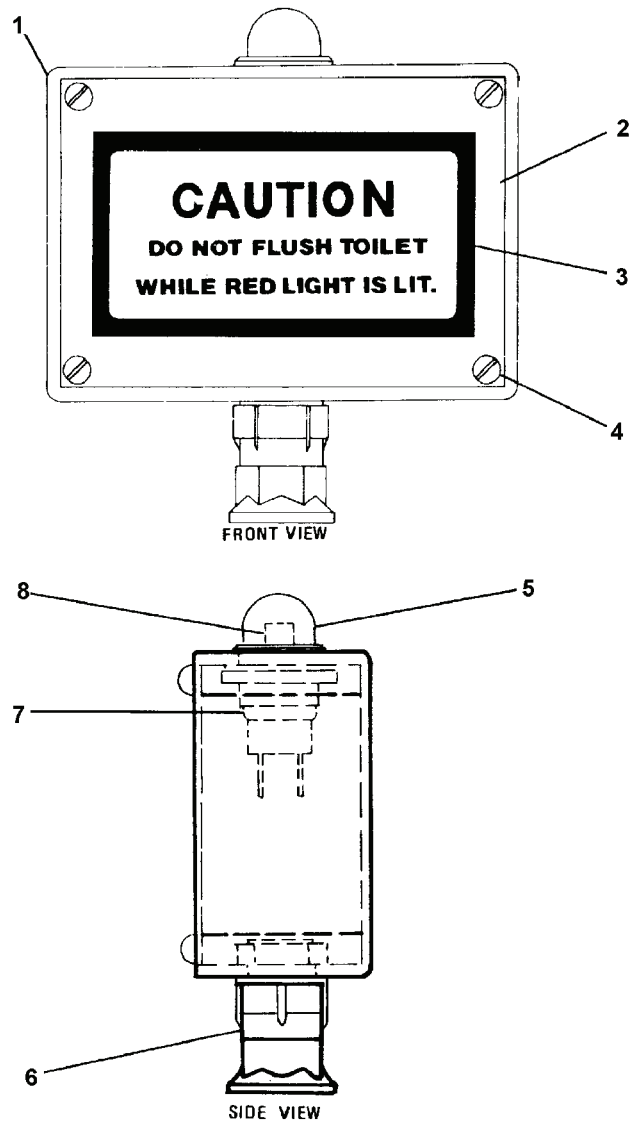

Figure 2-27. Commode Warning Light Assembly.
**2-24. Commode Warning Light Assembly. (Figure 2-27).**
The sanitary system has a commode warning light and audible alarm mounted in the 01 level passageway. A tank FULL condition exists when the red light is illuminated. The toilet(s) must not be flushed until the light is out. See caution plate on the light case (3, Figure 2-27).